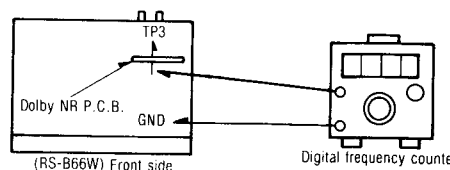

Fig. 8
8. The output is then (A) Hz.
9. Make the connection as in Fig. 8.
11. Adjust VR981 (for high speed adjustment) so that the output between TP3 and ground is 6 times the (A) Hz of step 8 ((A) Hz×6) Hz).